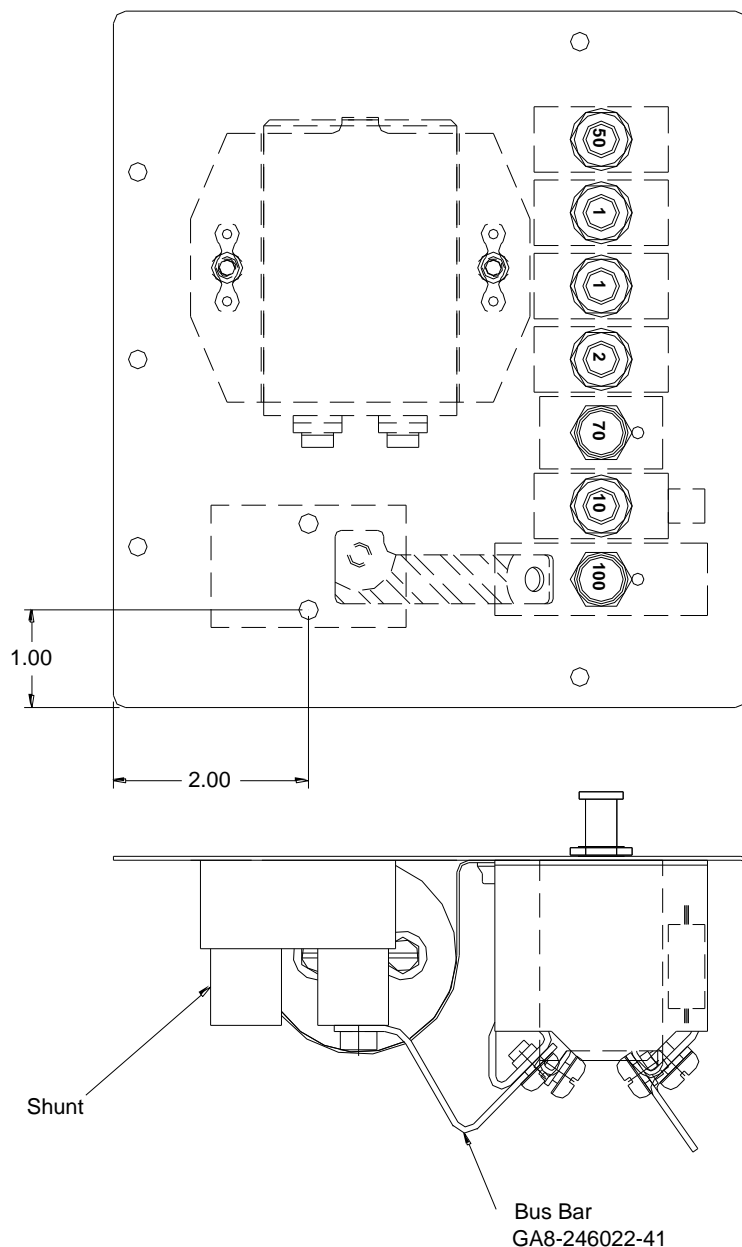

Figure 7-2 – Shunt and bus bar installation
9. Attach the new ammeter shunt to the circuit breaker panel. Connect the shunt bus bar (P/N GA8-246022-41) between the shunt and 100A breaker. Refer to Figure 7-2.